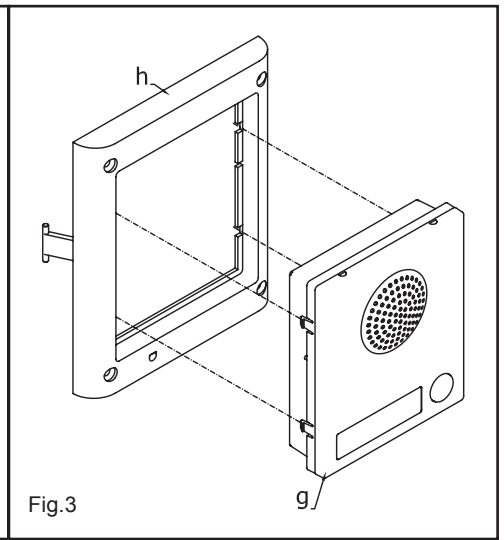

Fig.3
3. Hook the module g in the support frame h as shown in figure 3;